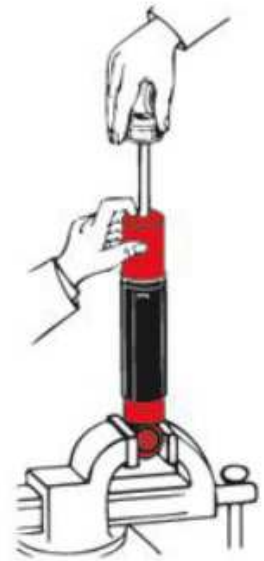

Figure 2: The handy adjustment button. Depress the button while turning clockwise to give increased damping forces.
- 1) Remove the dust cover and expose the adjusting button (figure 2).